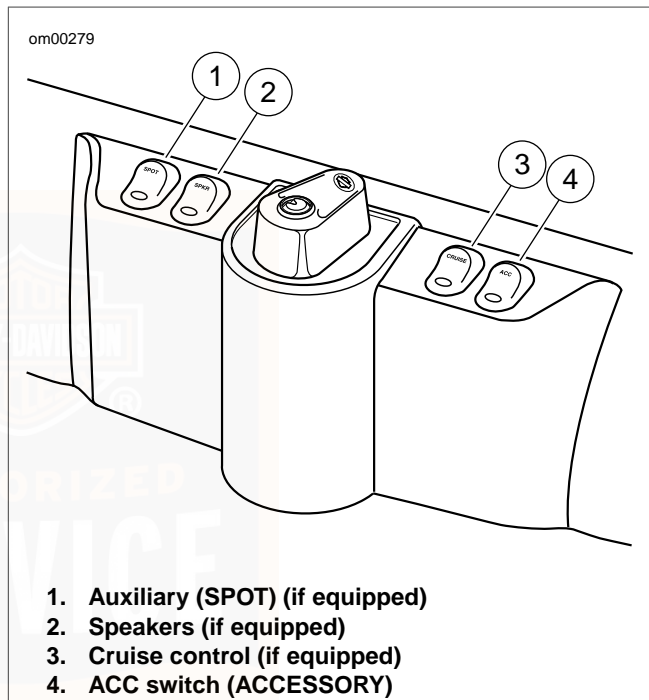

Figure 20. Switch Indicators (typical)
See Figure 20. An accessory switch (4) is located on the right side of the fairing.
See Figure 20. On models equipped with auxiliary lamps, use the auxiliary lamp switch to turn on the auxiliary lamps as